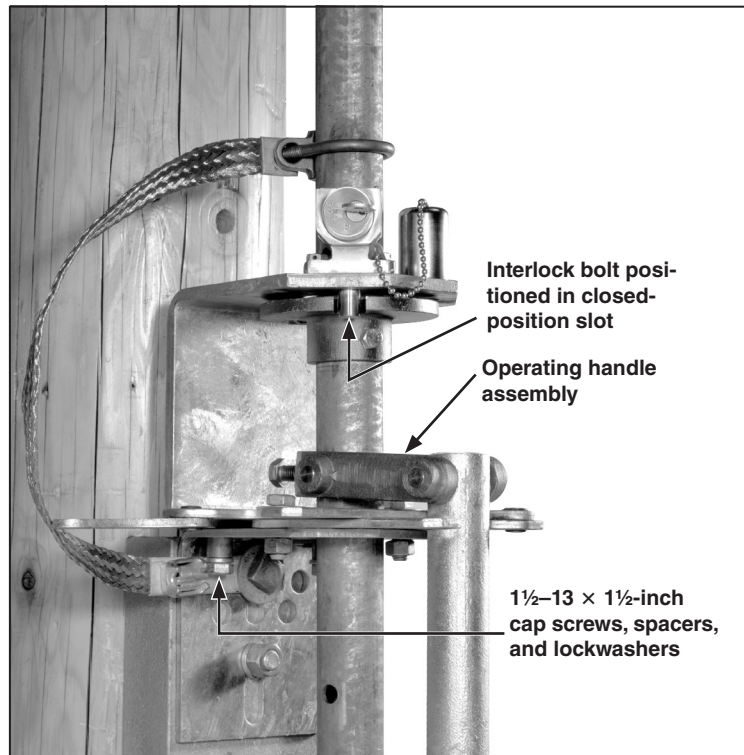

Figure 28. Fasten the operating handle assembly.
STEP 24. Fasten the operating handle assembly to the lowest vertical operating-pipe section using the piercing set screws furnished. The handle yoke should attach to the vertical operating-pipe nearest the position shown on the erection drawing. See Figure 28.